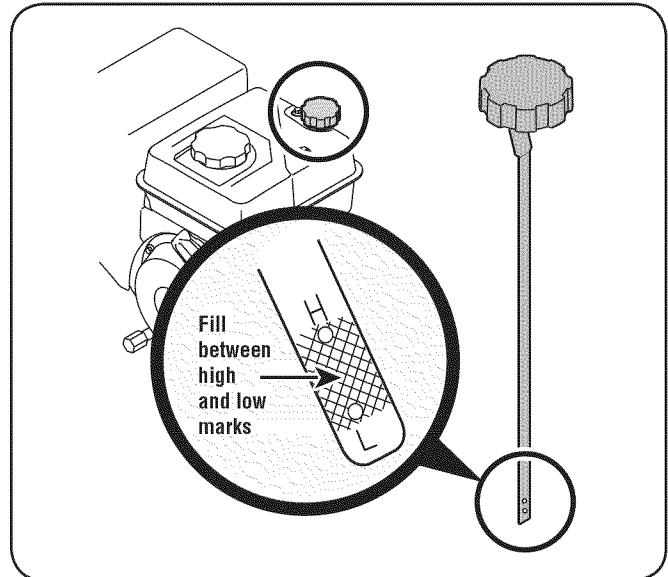

Figure 3-4
- Keep oil level between “H” and “L” marks on dipstick. See Fig. 3-4.
1. Remove the oil filler cap/dipstick and wipe the dipstick clean. See Fig. 3-4.
3. Remove the oil filler cap/dipstick. If the level is low, slowly add oil until oil level registers between high (H) and low (L), Fig. 3-4.